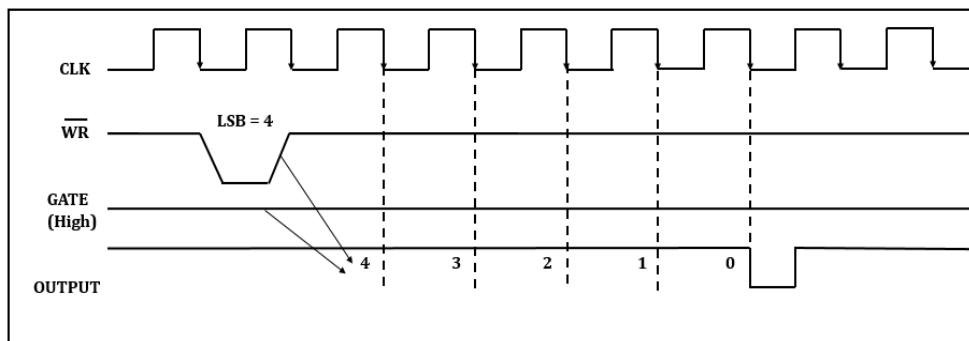

Figure 3.15: Mode 4 Timing Diagram.
- Figure 3.15 shows the Mode 4 Timing Diagram.